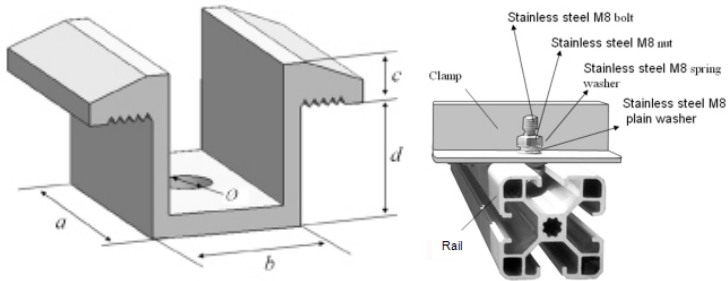
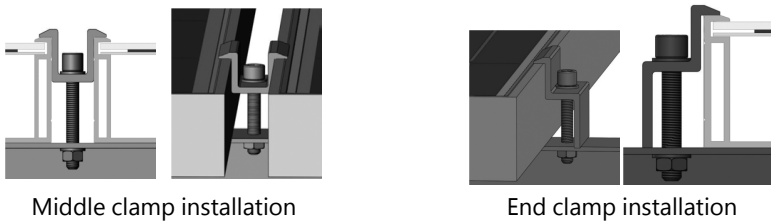

Figure 2: Middle clamps (left) and side clamps (right) of modules SPVxxx-60MMJ
Figure 3: End clamp and middle clamp installation of modules SPVxxx-60MMJ
The dimensions for the middle clamps are: $a \geq 40$ mm, $b \geq 26$ mm, $c = 8$ mm, $d \geq 28$ mm, and $\varnothing = 9$ mm (See Figure 2).
- Close-ups of the middle clamps and the side clamps are indicated in *Figure 2* and *Figure 3*.